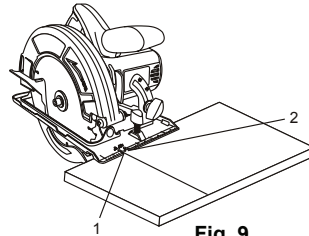

Fig. 9
NOTE: To align the saw blade with the cutting mark, use the guide marks on the front of the sole plate (Fig. 9). Use the 0° cutting mark (1) for right angle cuts. Use only the 45° mark (2) for 45° cuts. The 45° mark will allow for the extra material needed for the angle cut. Always make a test cut on a scrap workpiece before cutting the new material.